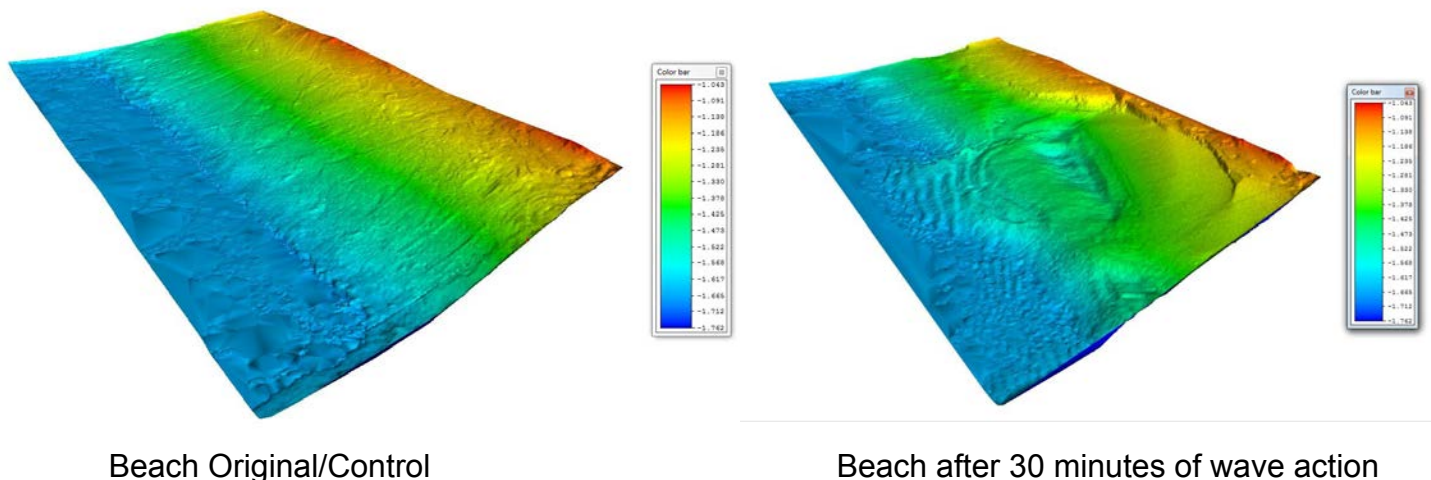

Figure 3
Below are a couple of Laser scans from the wave tank experiment. The image on the left is the original shape of the simulated beach or the control. The image on the right is the final shape after thirty (30) minutes of wave action. In this image EcoShield™ covered the left side facing the “beach” and the right side had no protection. This side is visibly eroded. (Figure 3)